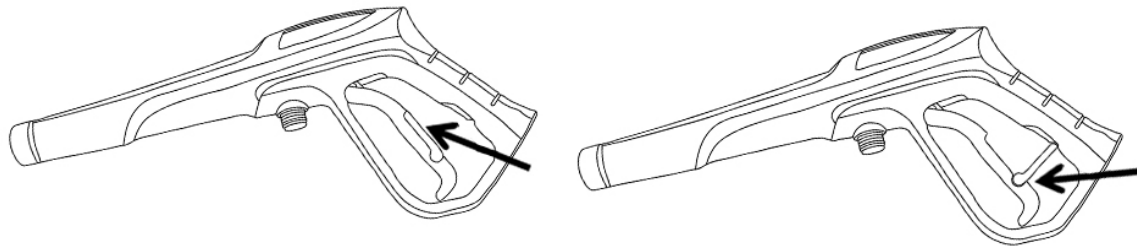

Figure 5&6: Trigger Lock
3. Push the trigger lock button, ensure the trigger in the "OFF" position. See figure 5 and 6.